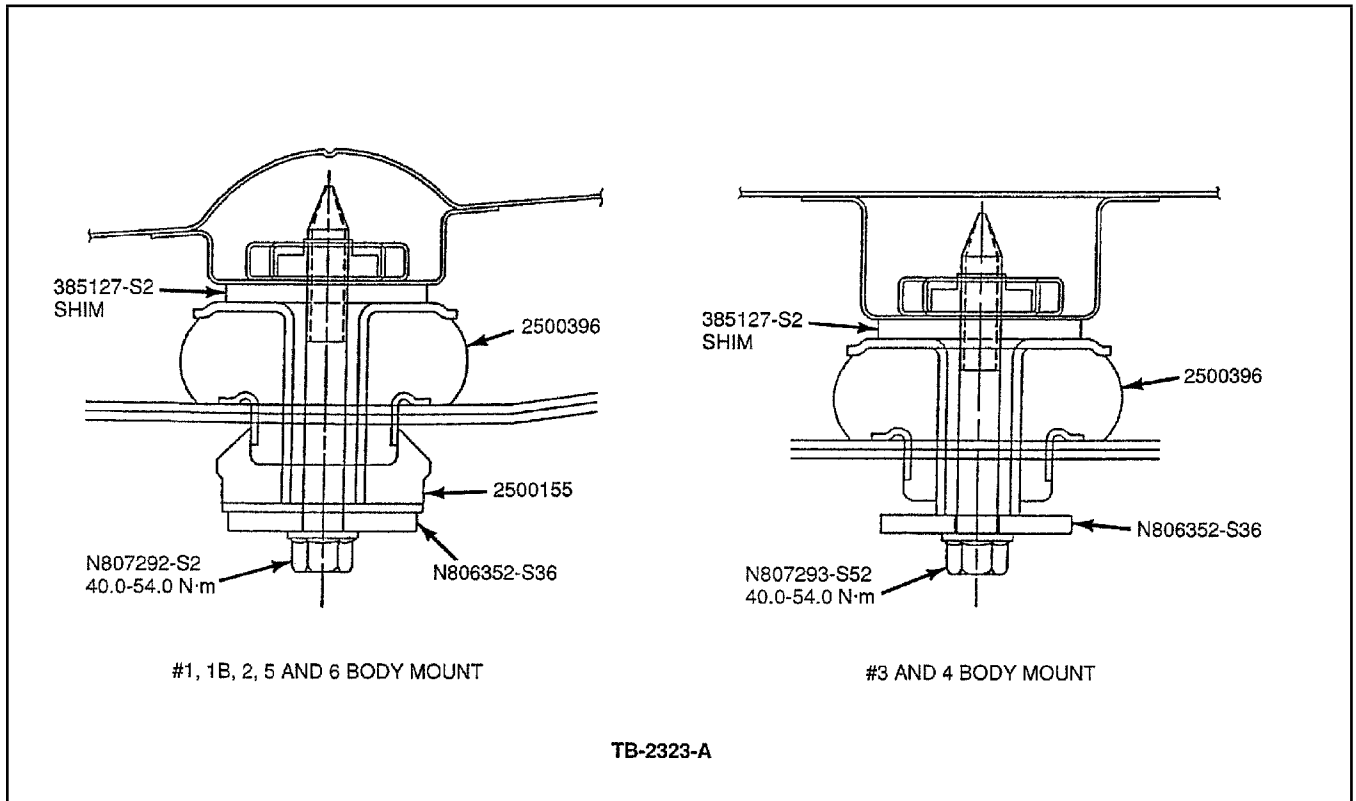
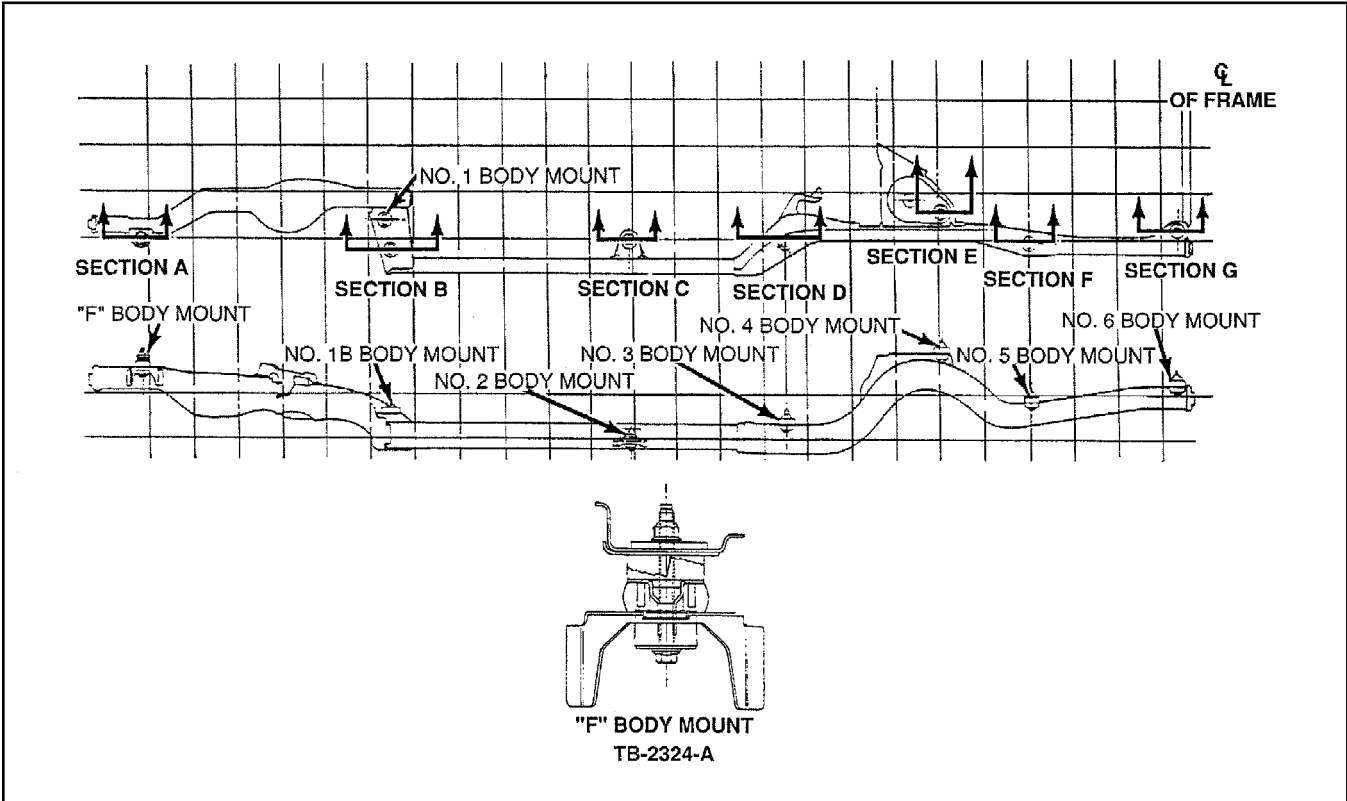

Figure 2 - Article 91-22-2
Figure 3 - Article 91-22-2
7. Install new bolts (N807292/3-S2) with shims (385127-S2) on all seven body locations, Figure 3. Use torque wrench to tighten to proper torque specification 40-54 N•m, Figure 2.
9. Adjust the low side "F" mount shim by turning clockwise with deep socket 3/4" (19.05mm) until there is no gap between the radiator support and the adjustable shim, Figure 3.